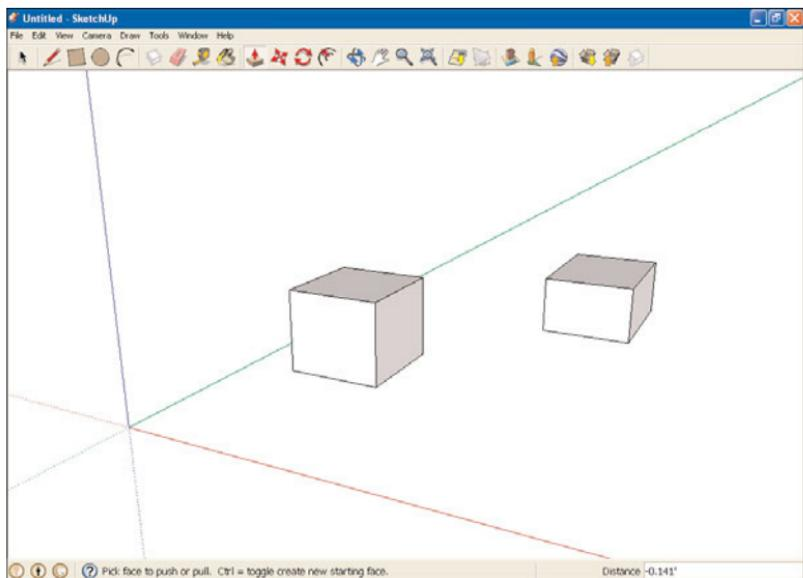

FIGURE 5.7 Two cubes.
Suppose you wanted to draw two cubes to the same height, similar to what you can see in Figure 5.7, but are not satisfied with your first effort.
When drawing 3D objects, you can infer the length on one object to another object, making the first object's length match the second object. Here's how it works in the example of the two cubes in Figure 5.7:
4. Pull the rectangles into cubes of different heights, as shown in Figure 5.7.